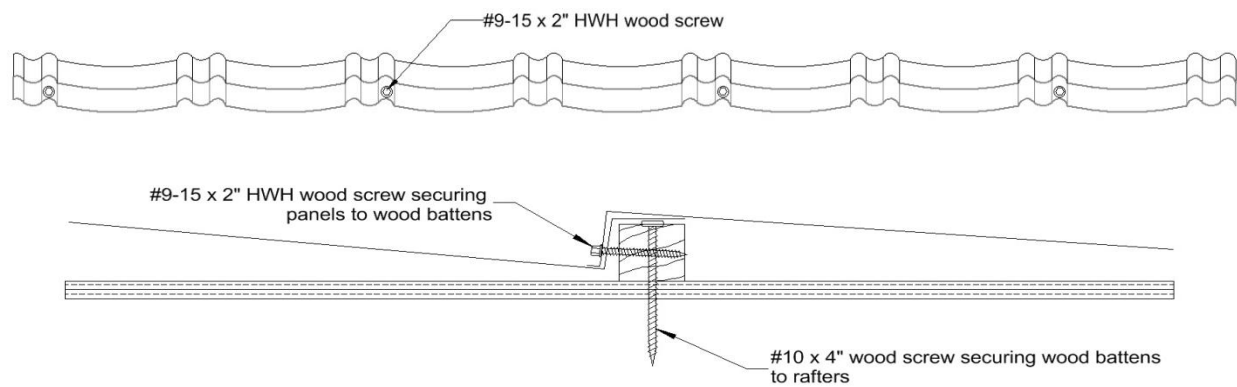

Figure 2: Terrabella Classic Panels Fastened to Battens
Terrabella Classic Panel Attachment: The panels are secured to the battens with four (4) No. 9-15 x 2" long HWH self-drilling screws per panel. The first screw is located $1\frac{1}{2}$ " from the panel edge and the remaining screws spaced $14\frac{5}{8}$ " o.c. The screws are installed at the vertical section of the head lap securing the panel to the wood batten. Refer to Figure 2 for attachment details.